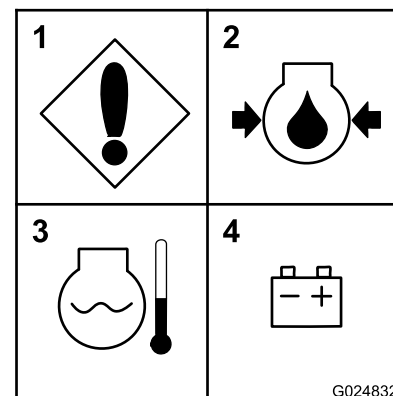

Figure 31
- **Machine or engine error**—This message is displayed if the machine or engine experiences a fault. The cause of the fault is given in the Instrument Panel Diagnostics (Figure 30 and Figure 31).
- **Low engine-oil pressure**—This warning message is displayed if there is no or low oil pressure in the engine (Figure 30 and Figure 31).
- **Engine overheated**—This message is displayed if the engine is overheated (Figure 30 and Figure 31).
- **Check alternator or battery**—This message is displayed if the alternator is not charging the battery (Figure 30 and Figure 31).